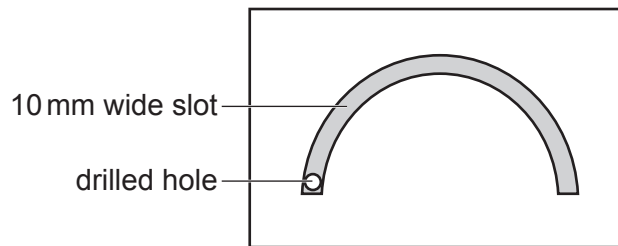

Fig. 5.1
- 5 Fig. 5.1 shows a slot marked out on sheet material. A hole has been drilled to allow a saw blade to be inserted to cut out the slot.